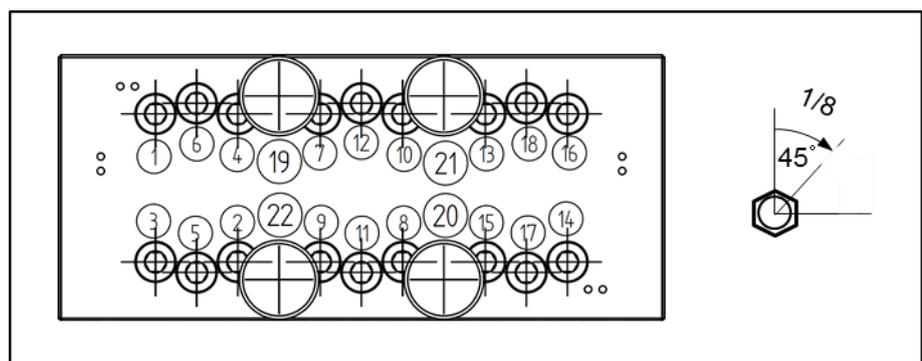

Figure 18: Tightening sequence for screw connections
3. Check all the cylinder fixings with maximum 1/8 turns one by one in alternating order as indicated in Figure 18: Tightening sequence for screw connections.
3. Check all the pump head mounting points with maximum 1/8 turns one by one in alternating order as indicated in Figure 18: Tightening sequence for screw connections.